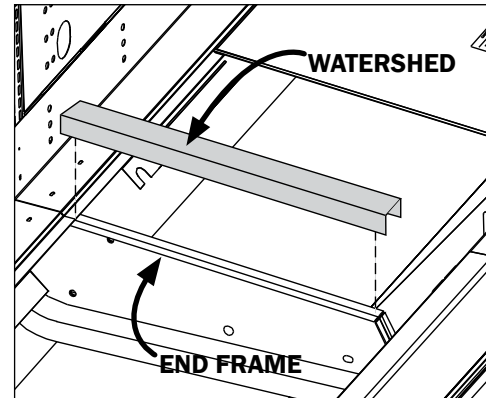

Fig. 7 Sealing the pipe chase
6. Apply case-to-case watershed (supplied) over the end frame seam (Fig. 7). The watershed prevents water from settling in the case joint.